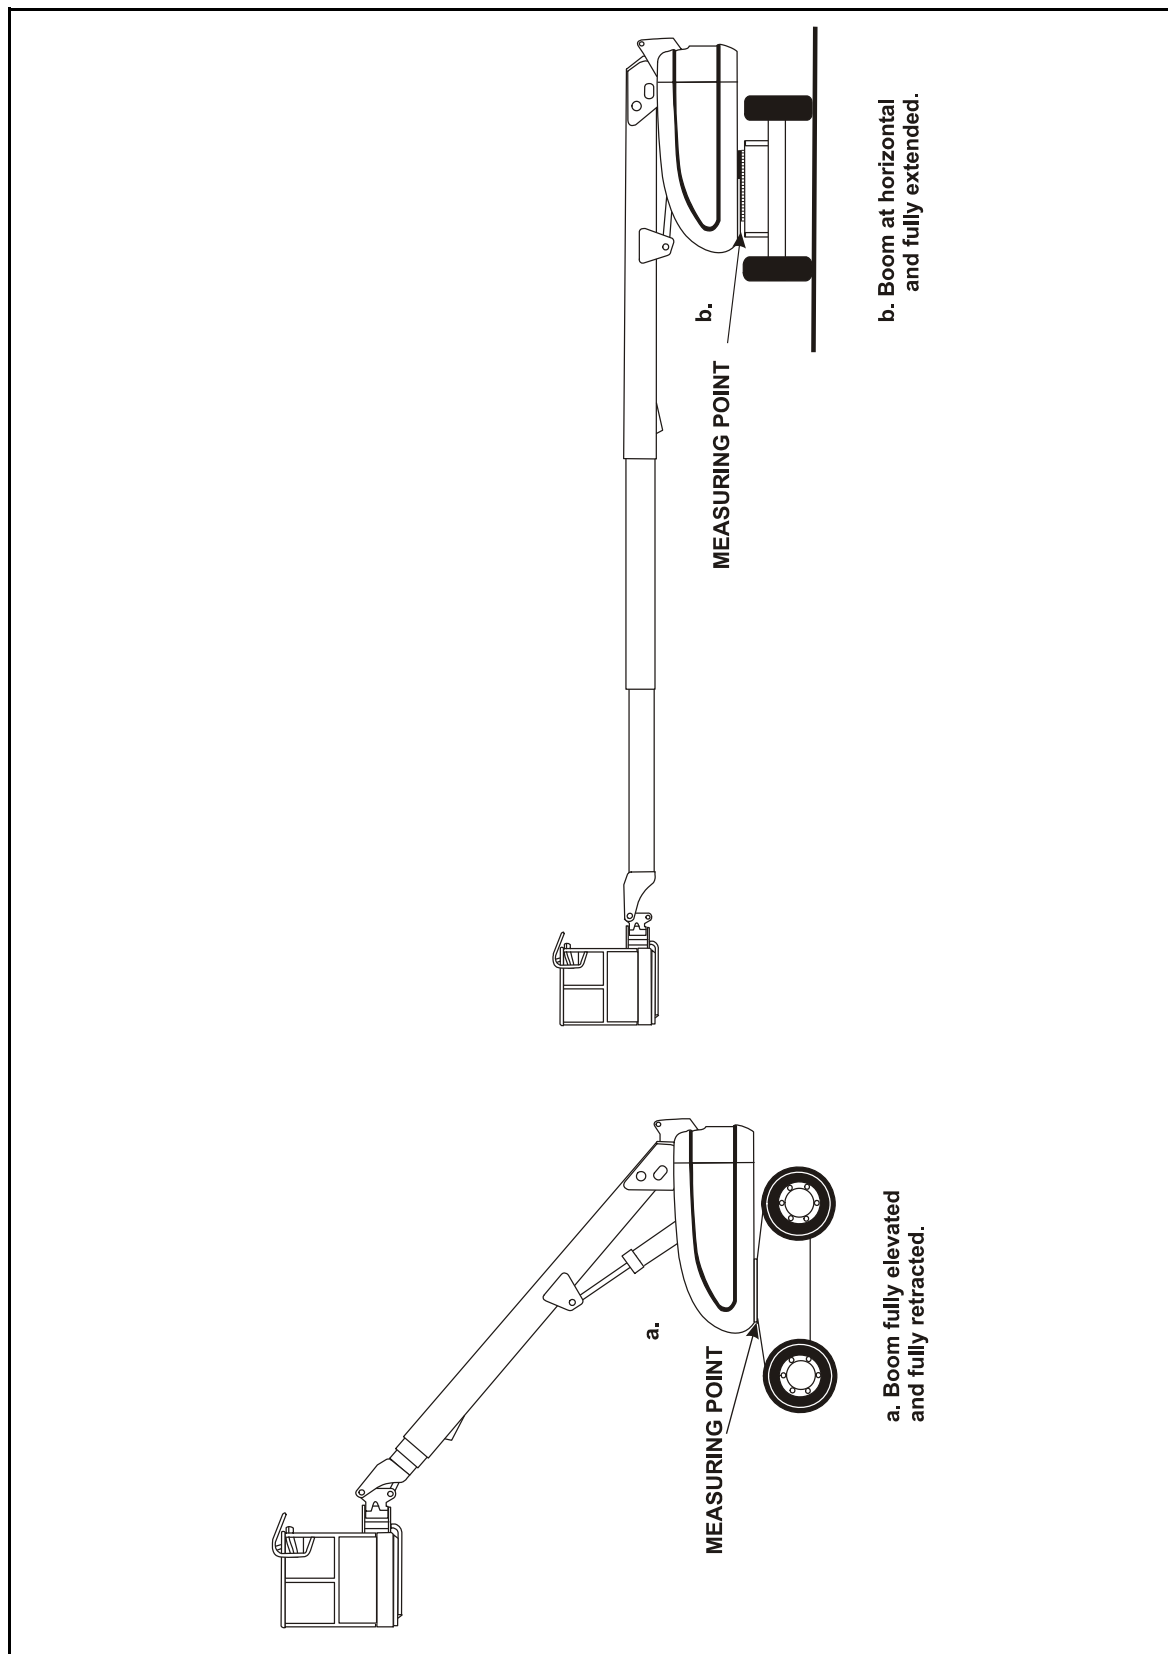
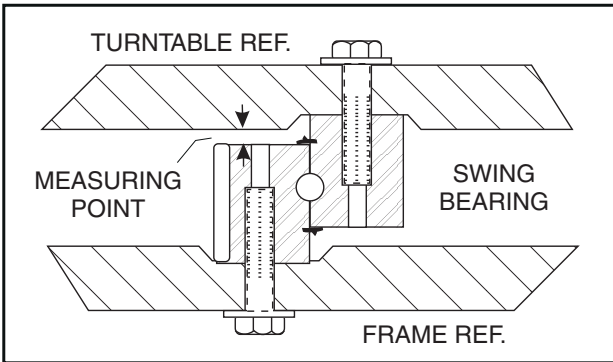

Figure 3-63. Swing Bearing Tolerance Boom Placement
Figure 3-64. Swing Bearing Tolerance Measuring Point
1. From the underside of the machine, at rear center, with the boom fully elevated and fully retracted, as shown in and Figure 3-63., Swing Bearing Tolerance Boom Placement - Swing Bearing Tolerance Boom Placement) A, using a magnetic base dial indicator, measure and record the distance between the swing bearing and turntable. (Figure 3-64., Swing Bearing Tolerance Measuring Point).
2. At the same point, with the boom at horizontal and fully extended, and the tower boom fully elevated as shown in (Figure 3-63., Swing Bearing Tolerance Boom Placement - Swing Bearing Tolerance Boom Placement) B, using a magnetic base dial indicator, measure and record the distance between the swing bearing and turntable. (Figure 3-63., Swing Bearing Tolerance Boom Placement).